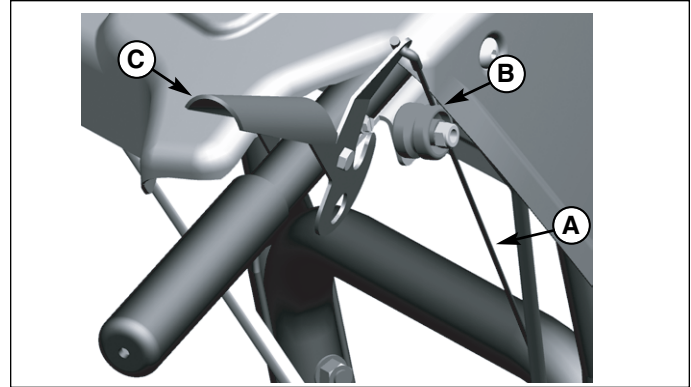

Figure 15. Auger Cable Button
1. Check that the auger cable (A, Figure 15) is on top of cable button (B) as show in Figure 15.
10. Turn the ball joint (C, Figure 15) until it is aligned with the mounting hole in the shifter rod (E). When aligned, attach the ball joint (C) to the shifter rod (E) and tighten the jam nut (B).